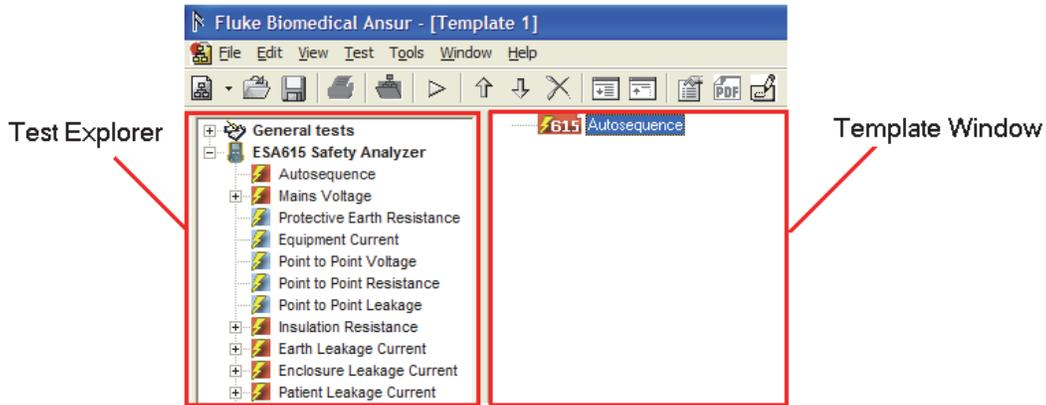

Figure 3-16. Test Explorer Window
2. In the test explorer window, click on the plus button (+) to the left of the ESA615 Safety Analyzer entry. This expands the electrical safety test entries for this analyzer. See Figure 3-16.